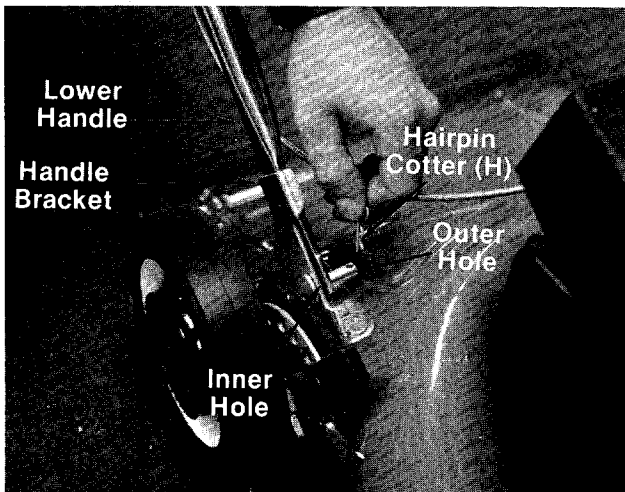

FIGURE 2.
- A (2) Curved Head Carriage Bolts
- B (2) Hand Knobs (Folding Handle Only)
- C (2) Lock Washers 5/16" I.D. (Non-Folding Handle Only)
- D (2) Hex Nuts 5/16-18 Thread (Non-Folding Handle Only)
- E (2) Cable Ties
- F (1) Hex Bolt 1/4-20 x 1.50" Long
- G (1) Hex Lock Nut 1/4-20 Thread
- H (2) Hairpin Cotters
3. Fasten lower handle in position over weld pins in handle mount brackets on deck. Secure with hairpin cotters (H) in inner hole on weld pin. See figure 2.